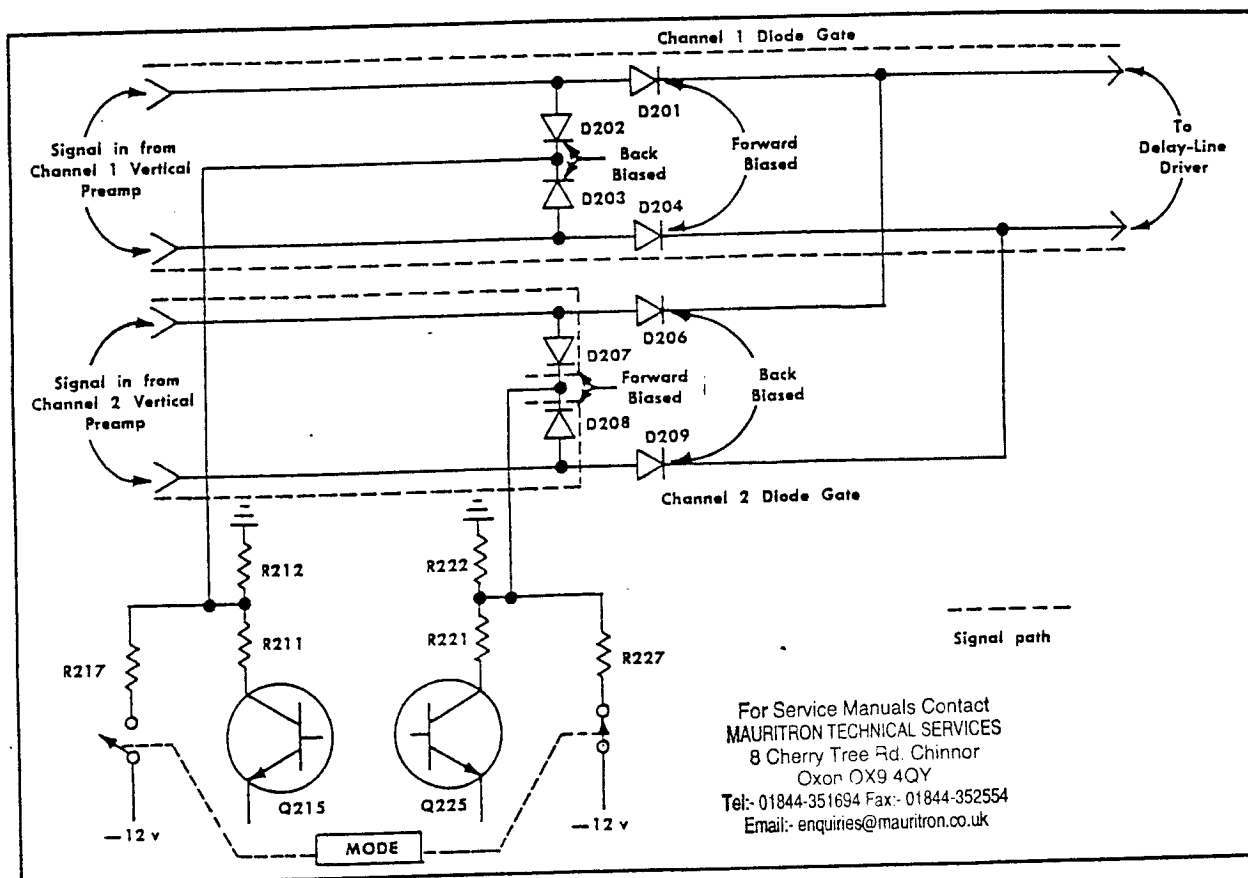

Fig. 3-3. Effect of diode gates on signal path. Shown in CH 1 position of MODE switch.
**CH 1.** In the CH 1 position of the MODE switch,  $-12$  volts is applied through R227 to the junction of D207-D208 in the Channel 2 Diode Gate (see Fig. 3-3). This forward biases D207-D208 and back biases D206-D209 since the input to the Delay-Line Driver is at about  $-5.9$  volts. D206-D209 block the Channel 2 signal so it cannot pass to the Delay-Line Driver stage.